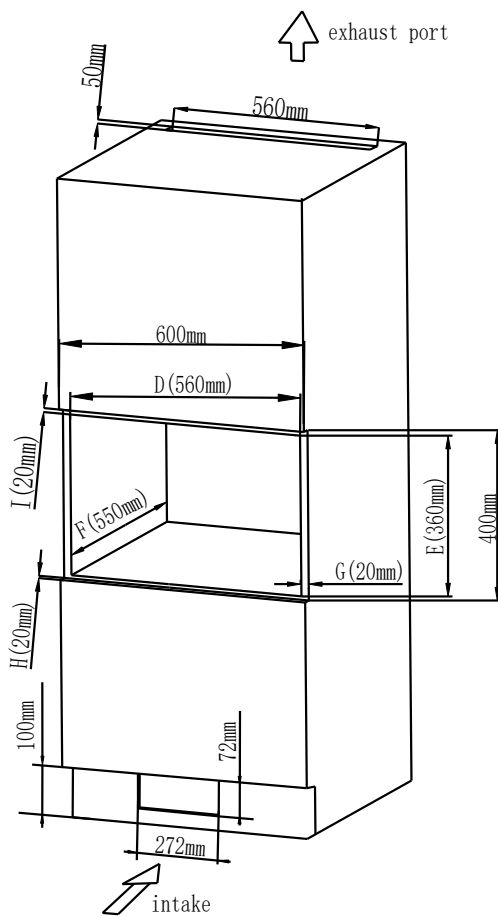

Fig.5
a) Intake and exhaust port position, as shown in Fig.5.
Opening size: (D) 560 ± 2 x (E) 360 ± 2 x (F) 550 ± 2 (mm) as shown in Fig.5 "D", "E", "F".